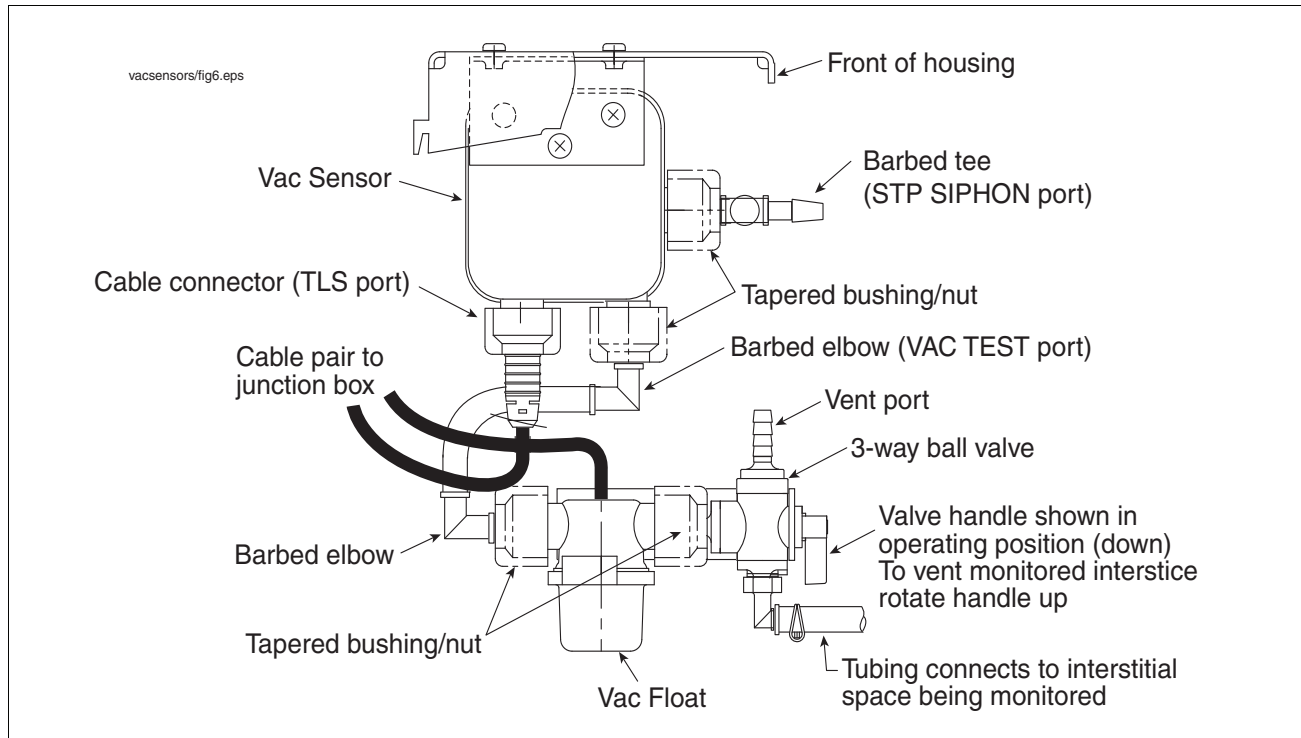

Figure 4. Vac Sensor/Vac Float tubing connections
5. Get the plastic valves, barbed elbows, tapered bushings and cord grip nuts from the Vac Float kits. Insert bushings and screw cord grip nuts into the two ports of the Vac Float. Insert a valve into one port and a barbed elbow into the other port of each Vac Float. Orient elbow and valves in Vac Floats as shown in Figure 4 then tighten nuts to secure the fittings.
7. Get barbed elbows, tapered bushings and cord grip nuts (1 each for each Vac Sensor) from the secondary piping vacuum monitoring kits. Insert a tapered bushing and barbed elbow in the bottom port labeled VAC TEST (embossed on cover) of one of the Vac Sensors. Orient the elbows as shown in the Figure 4, then tighten the cord grip nut.
8. From the kit's 1/4" tubing, cut a piece of the 1/4" tubing and connect the VAC TEST port in one of the Vac Sensors to the rear elbow fitting in one of the Vac Floats (preferably the one under it). Keep the connection kink free and as short as possible (see Figure 4). Repeat this procedure for each additional Vac Sensor/Vac Float pair. Skip to Step 10.
3. Get the 1/4" ID tubing from the install kit and measure a piece that will reach the barbed fitting on the bottom of the plastic valve (see Figure 4) that is connected to the Vac Sensor/Vac Float pair you labeled 'P'. Plan enough tubing so that it isn't stretched between fittings or have any sharp bends/kinks in it. Cut and install this tubing and secure tubing ends with spring clamps.